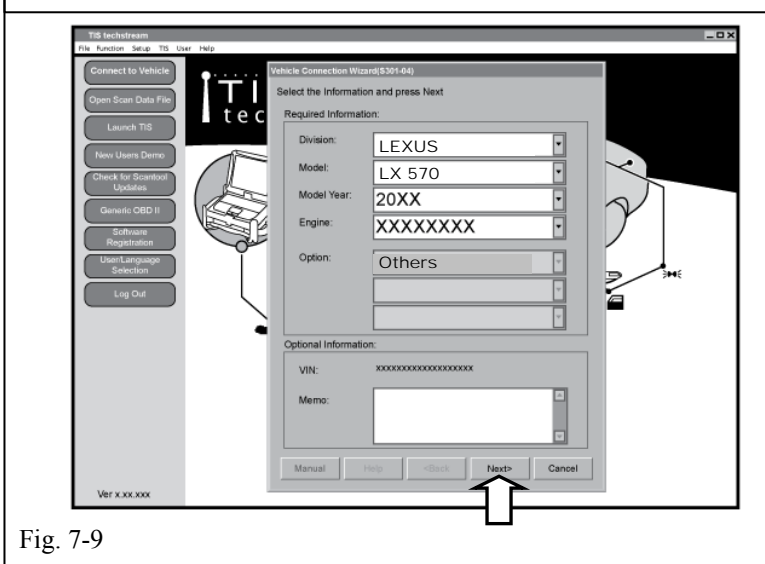

Fig. 7-9
- (q) Confirm that the information displayed on the Vehicle Connection Wizard is correct for the Vehicle. If not verify that the Techstream is properly connected. (Fig. 7-9)
- (r) Under Option, select "Others" then Click "Next>."(Fig. 7-9)